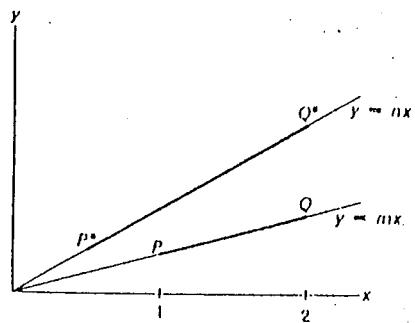

Fig. P2.7
2.7. A straight piece of wire PQ lies along the line $y = mx$ as shown in Fig. P2.7. The wire is strained and displaced to the line $y = nx$ in such a way that a point originally at x is displaced to $x^2/2$. Show that the extensional strain at any point along the wire is given by